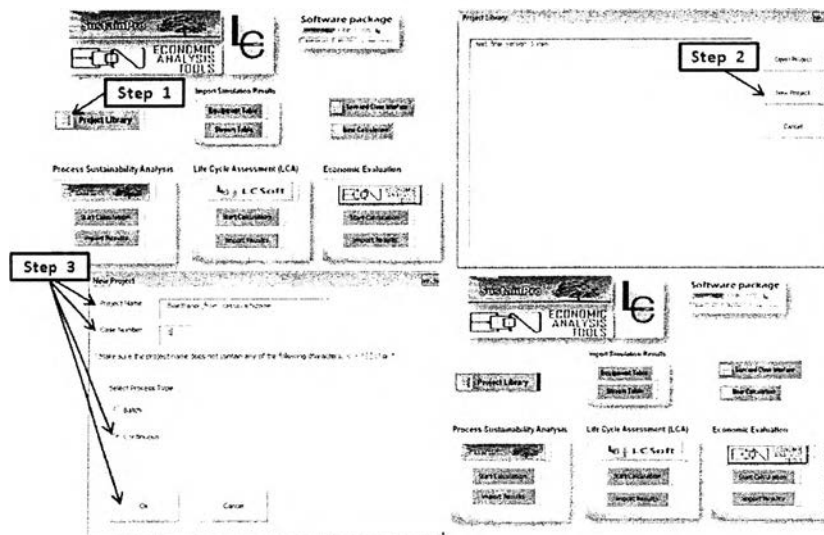

Figure B.5 Steps to create new project
Step 1: Open “Interface.xlsm” file, “Start menu” page will appear then click “Project Library” button as shown in Figure B.5.
Step 3: Enter project name (Bioethanol_from_cassavarhizome), case number (1), and select process type (continuous), then click “Ok” button. The blue tab near “Project Library” will appear that means your project name